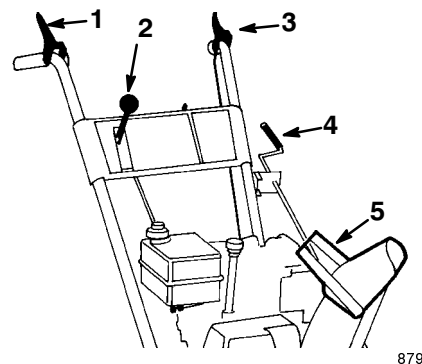

Figure 3
- **Auger/Impeller Drive Control Lever** (Fig. 3)—To engage both the auger and impeller, press the lever against the right handgrip. To disengage, release the lever.
- **Speed Selector** (Fig. 3)—This control has five positions: two reverse and three forward gears. To change speeds, move the speed selector to the desired position. The lever locks in a notch at each speed selection. The speed selector may shift with difficulty in heavy load conditions.
- **Traction Control Lever** (Fig. 3)—To engage the traction (wheel drive), press the lever against the left handgrip. To stop the traction, release the lever.
- **Discharge Chute Control** (Fig. 3)—Rotate the discharge chute control clockwise to move the discharge chute to the left; counterclockwise to move the chute to the right.
- **Chute Deflector Handle** (Fig. 3)—Move the deflector handle forward to move the snow stream down; move it rearward to move the snow stream up.
2. Make sure that the auger/impeller drive control lever and the traction control lever are in the *Disengaged* position (Fig. 3).
9. Move the speed selector (Fig. 3) to first gear, squeeze the traction control lever to the handgrip, and then release the traction control lever. If the snowthrower moves forward before engaging the traction drive control lever or after releasing the lever, see *Adjusting the Traction Drive* on page 15.
4. Release the traction control and the auger/impeller drive control levers (Fig. 3).